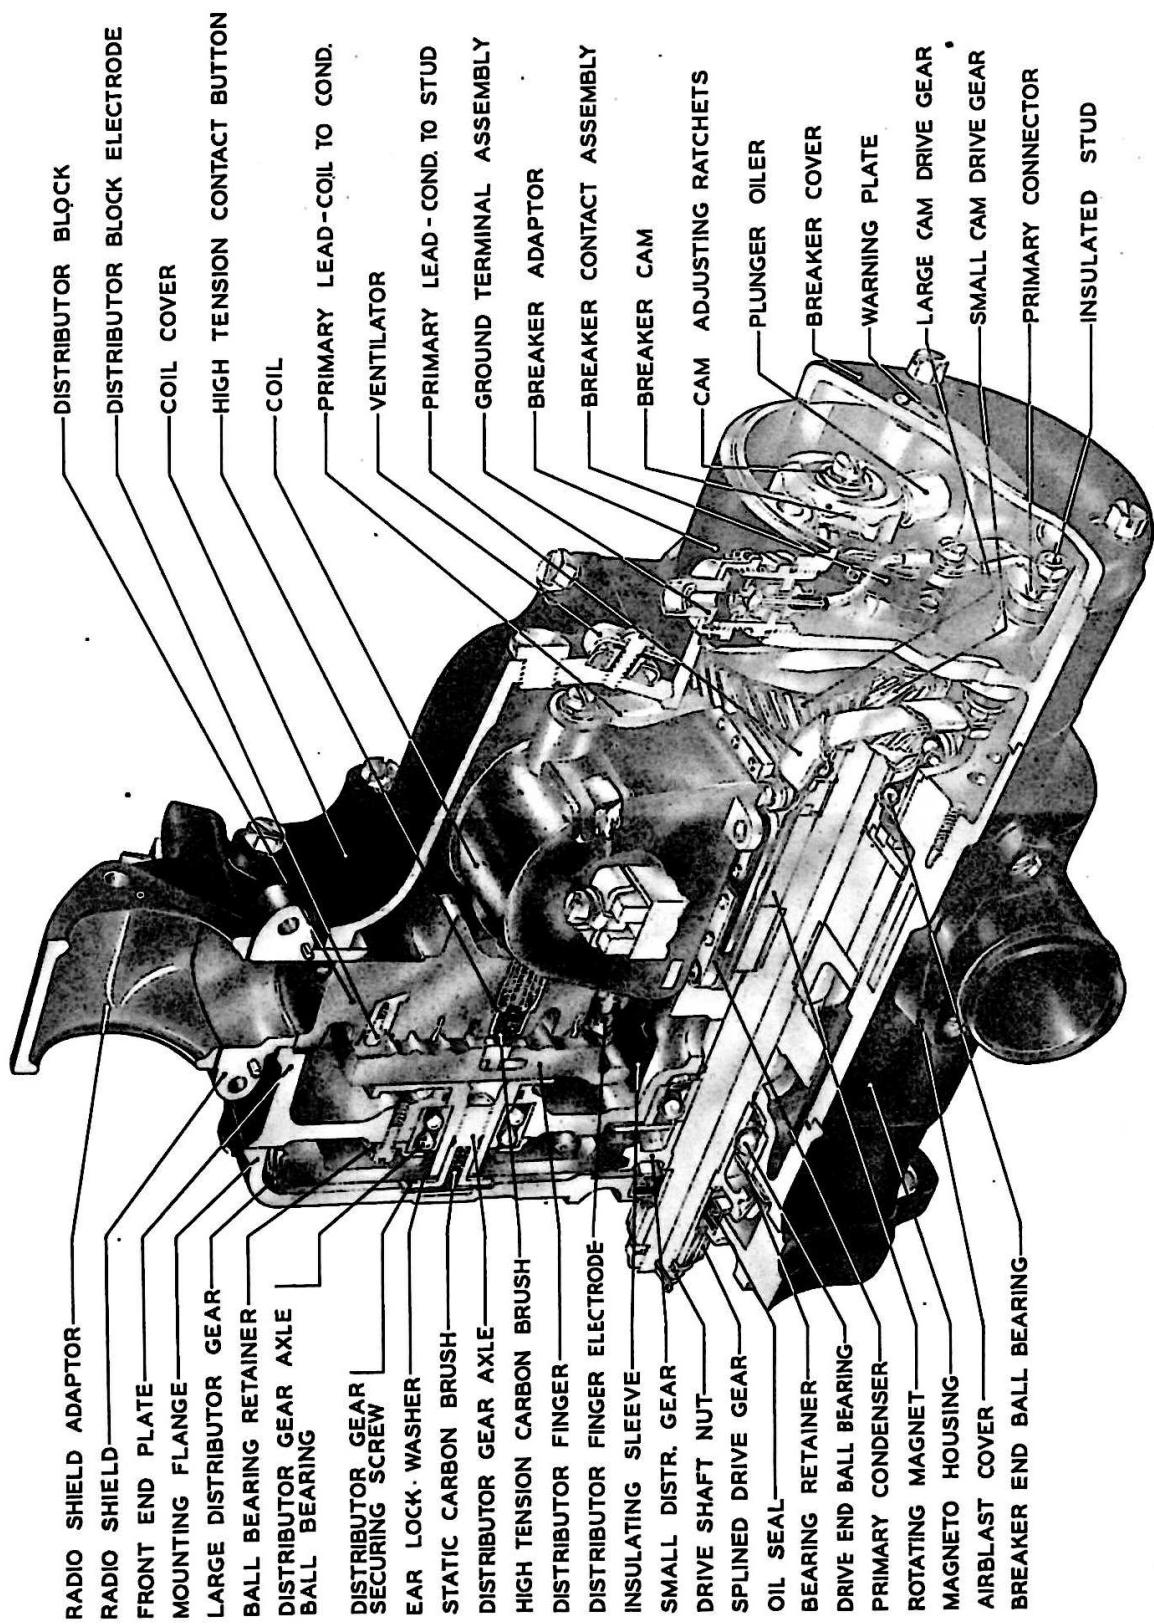

Figure 2 - Three Quarter Cutaway View of SF9LN-4 Magneto.
2. DETAILED DESCRIPTION. (SEE FIGURE 2.)